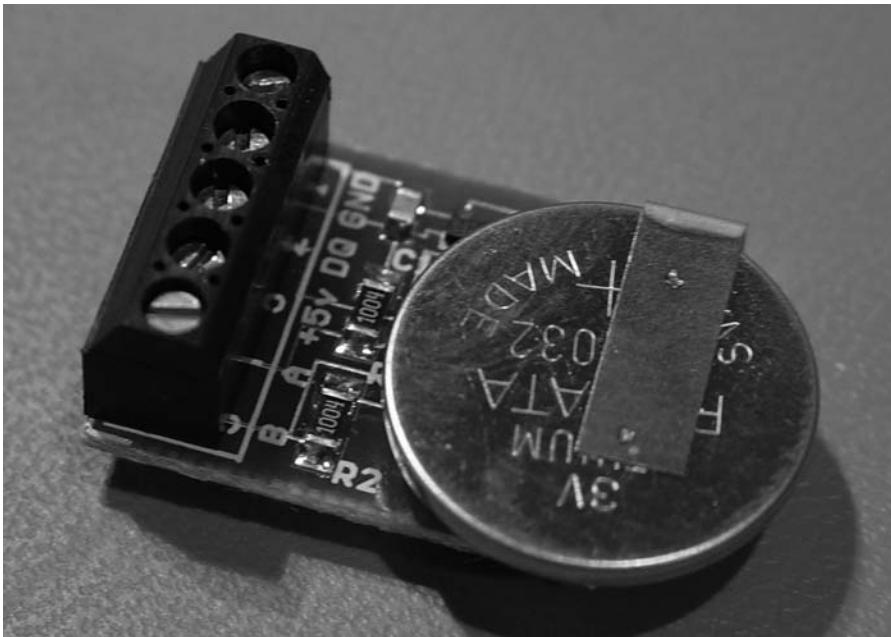

FIGURE 9-4: Completed Hobby-Boards module.
5. Inspect. Inspect each connection to make sure there are no shorted parts. Figure 9-4 shows the completed board.
You can buy the completed counter module from Hobby-Boards or AAG. The Hobby-Boards module uses screw terminals for connections as shown in Figure 9-4. The AAG module uses attached wires and supplies crimp-on connectors to attach it to the reed switch and 1-Wire bus.